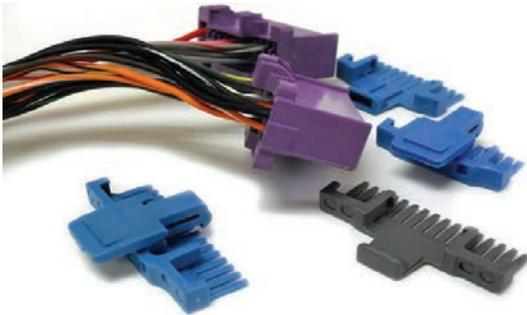
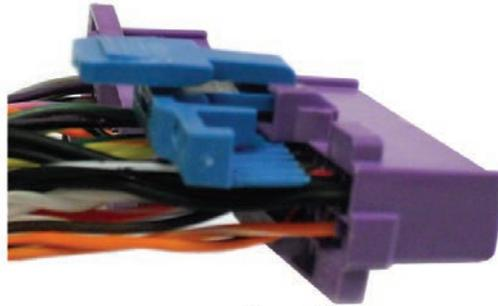

Figure 4
Figure 5
In order to minimize the hole-size required to feed the harness through, we have shipped the harness without installing the locks for the connectors. There are (3) blue and (1) gray lock (See Figure 4). Carefully insert the locks one at a time, paying close attention to their proper alignment (See Figure 5). When the locks have been pushed in completely the lock clips will be engaged and will not pull back out (See Figure 6). Repeat this step for all four locks.